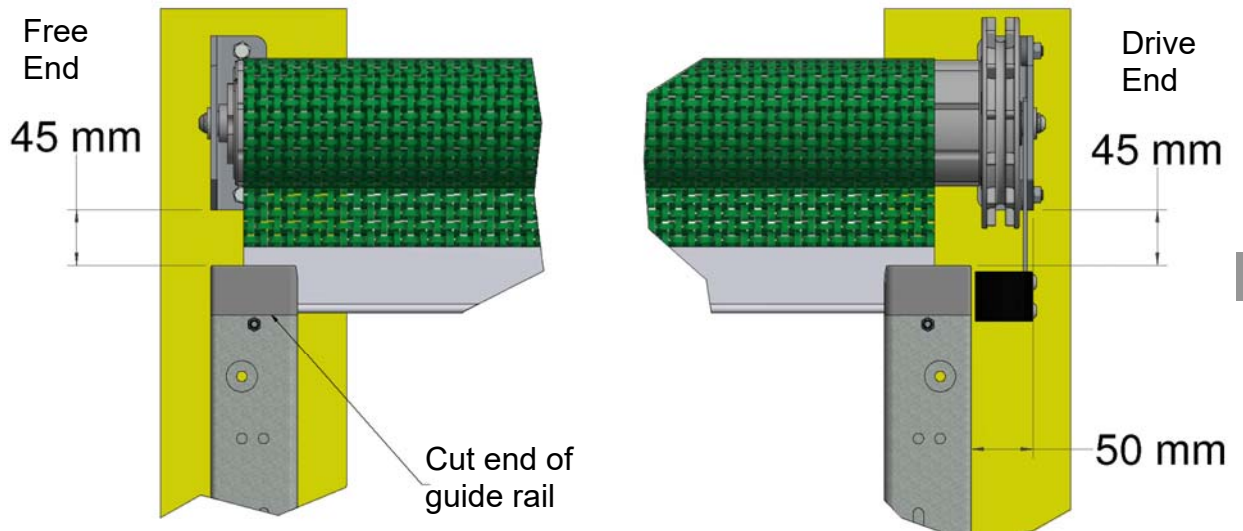

Figure 12a, Guide Rail Positioning
9. The Guide Rails are to be positioned so that the Free End Guide Rail is flush with the spring bracket (F1) and the Drive End Guide Rail is offset by 50mm from the drive bracket (D1), as shown in Figure 12a. The cut ends of guide rails are to be positioned next to wall brackets.